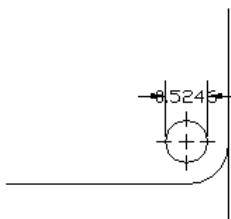

Figure 15-17: A narrow dimension using the Always keep text between ext lines option.
- ♦ **Always Keep Text between Ext Lines:** As it says, this option always keeps the text between the extension lines, even if they don't fit. Figure 15-17 shows a dimension using this option.